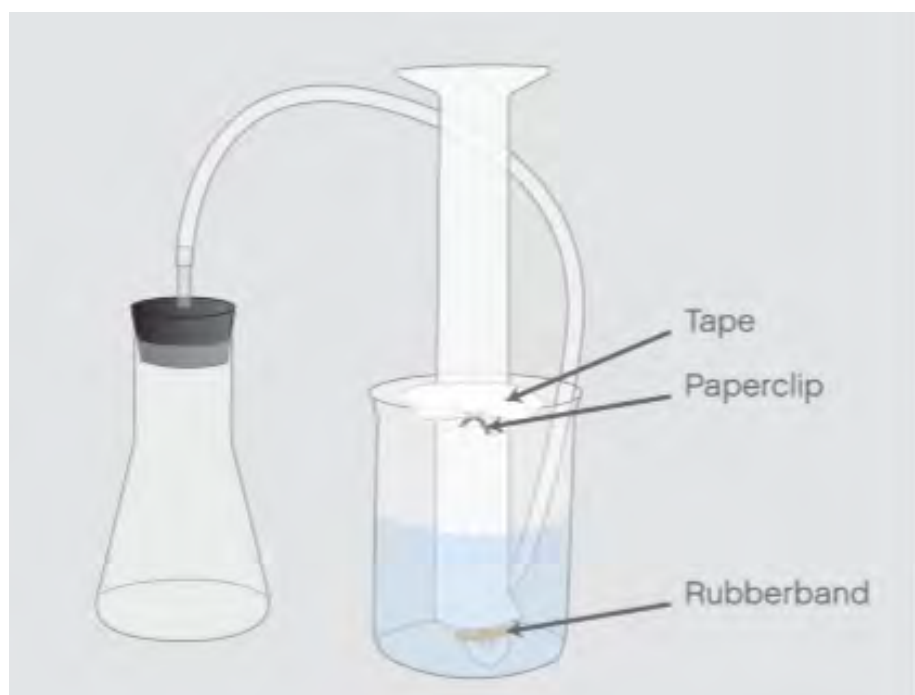

Figure 9. Set up of the gas collection apparatus.
1. Prepare the materials for the apparatus as shown in Figure 9. Insert the smaller rigid tubing into one end of the larger, flexible tubing. Insert the free end of the rigid tubing securely into the rubber stopper hole.